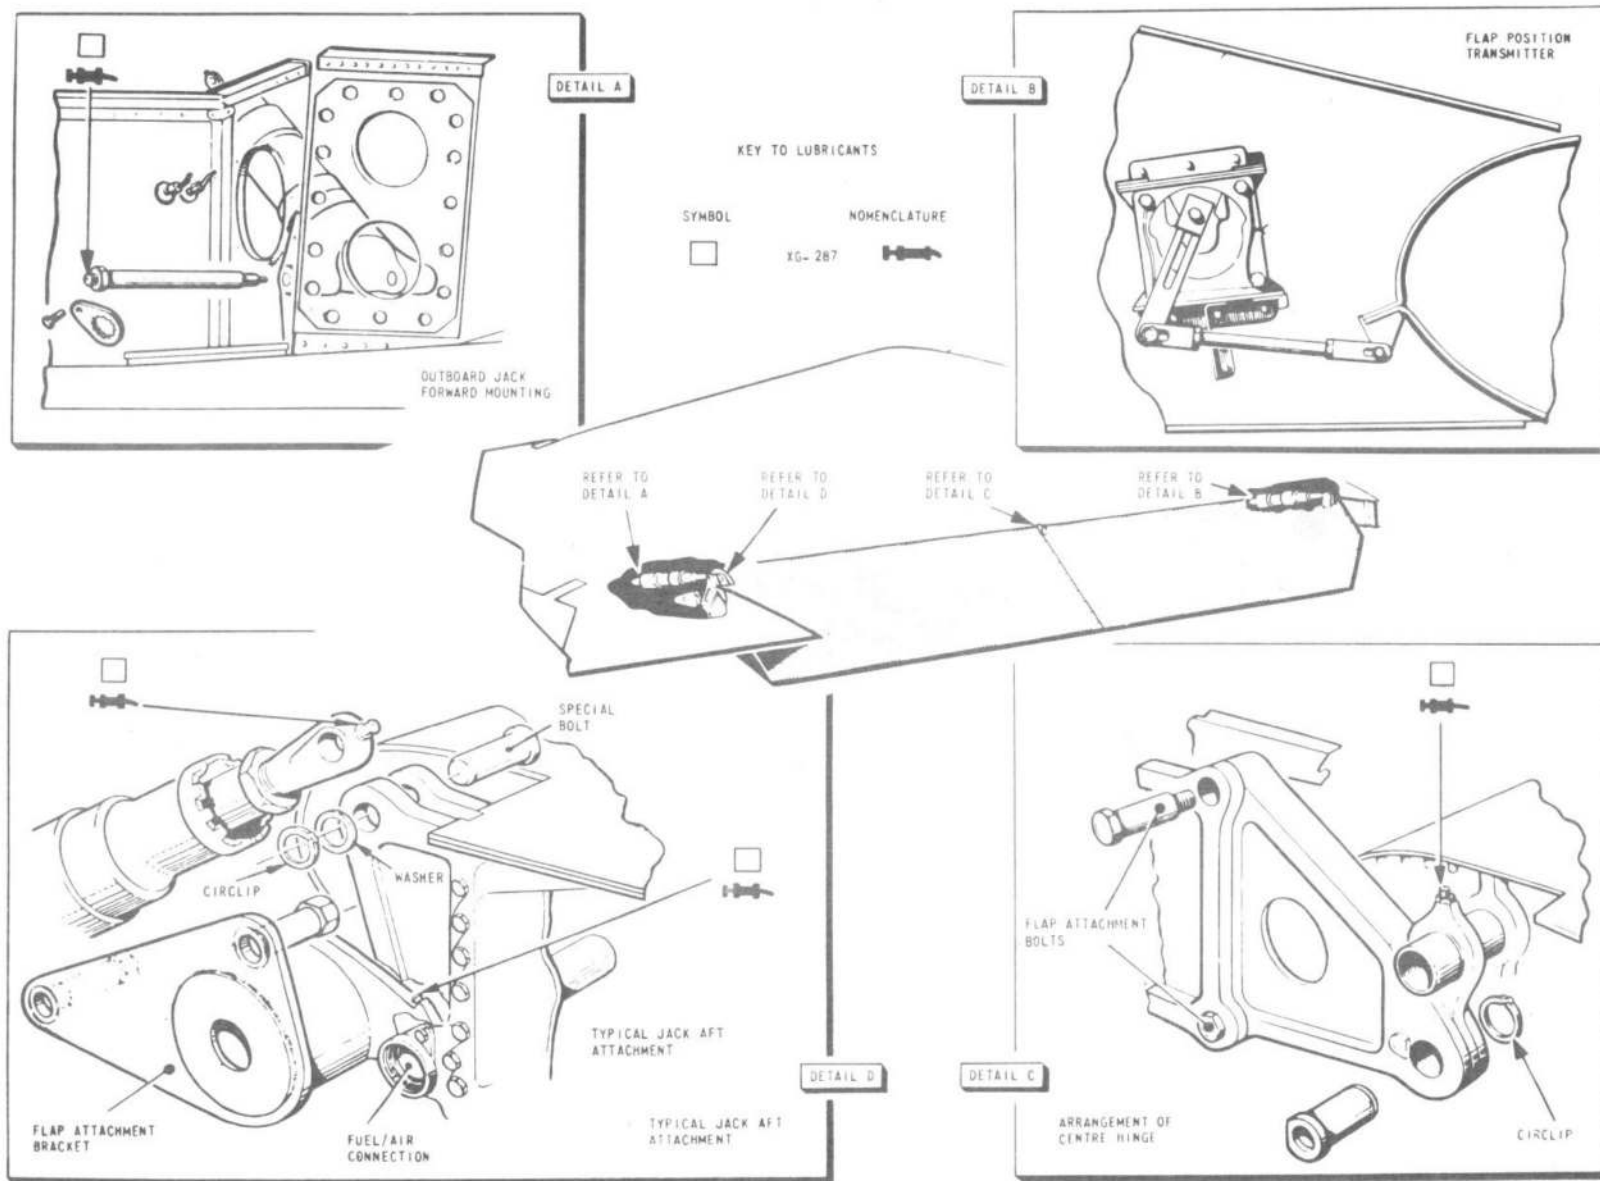

FIG. 1. FLAPS
FLAPS (fig.1)
8. For the lubrication points on the flaps and air brakes refer to fig.1 and 5 respectively.
(1) Connect a 28-volt d.c. ground supply to the socket in the port wheel well (Sect.2, Chap.2, fig.1).
(2) Remove the hydraulic system hand-pump handle from its stowage in the port wheel well and fit it to the pump (access panel 79P)
(4) Remove access panels 123P and S.
(5) Remove the pivot pin from the forward end of each outboard jack; access is gained through the wheel well (fig. 1, detail A).
(6) Ensure that the alighting gear is selected DOWN.
(7) Select flaps UP and, supporting the outboard jacks, apply pressure with the hand pump until the up-locks on the inboard jacks are engaged; this is indicated by the pointers on the jacks, visible behind access panels 123P and S.
(8) Adjust the length of the inboard jack rams until the trailing edges of the flaps are in line with the main plane trailing edges.
(9) Ensure that the up-locks are engaged on the outboard jacks, and adjust the jack rams until the pivot pins can be freely inserted.
(10) Lock all adjustments.
(11) Select flaps DOWN, and apply pressure to extend the jacks. Check the flaps for twisting and straining.